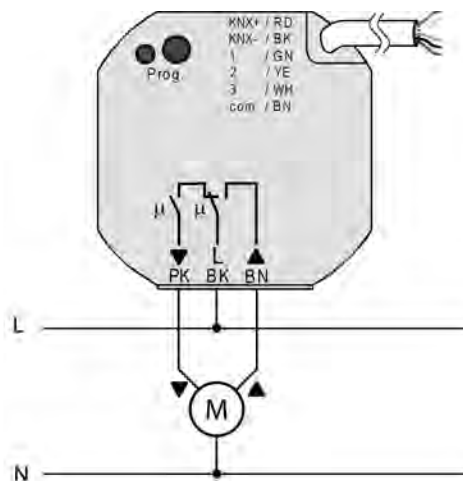

Figure 4: Connection of the mains voltage and the load
- (4) Device box (e.g. electronics box)
- (5) Partition
- (6) Series switch
- (7) Potential-free contact, e. g. window contact
- Connect the mains voltage and the Venetian blind drive using the included screwless terminals (figure 4).